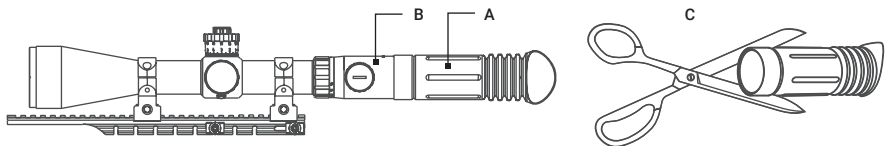

FIGURE 2-9. LIGHT SUPPRESSOR FOR A DAY SCOPE
The Light Suppressor for a Day Scope (A, Figure 2-9) slides over the eyepiece of your daytime scope (B). The suppressor can be used with scopes that have 40-43 mm eyepiece diameters and 100-120 mm eye relief.